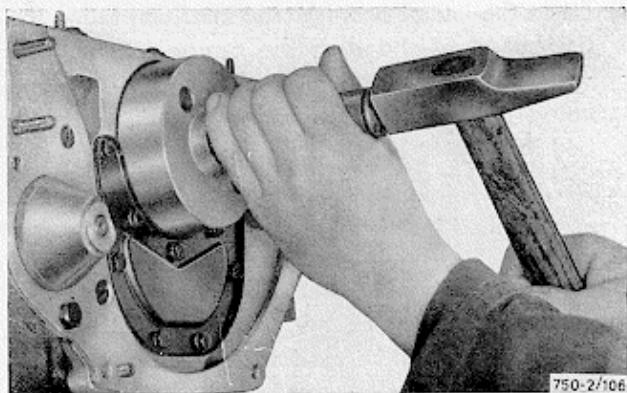

Fig. 106 - Mounting the rear oil seal with the tool No 6121.07.293
g) Inspect the front and rear oil seals and replace them where necessary. Tool 6121.07.293 should be used for the rear seal as shown in fig. 106; see Chapter 12 regarding the front seal.